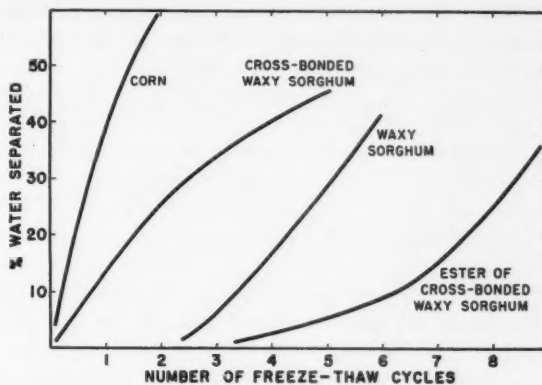

Fig. 10. Progressive syneresis of water from 5% pastes of various starches, subjected to repeated freeze-thaw treatments.
Modern methods of food preservation include deep-freezing and prolonged cold-storage. Where pasted starch is employed as a thickening agent in the food, the accelerated retrogradation at low temperature may cause undesirable physical changes, including gel formation, development of opacity, and syneresis or seepage of water from the paste. This latter effect is particularly objectionable in pie fillings and frozen foods. For test purposes, the development of syneresis can be greatly exaggerated by successively freezing and thawing the starch paste, then centrifuging and determining the amount of separated water (2). Several such freeze-thaw cycles are equivalent to months of cold-storage at 40°F. Figure 10 shows some typical results. Corn starch is generally unsuitable for this purpose, since the paste breaks down excessively after one freeze-thaw cycle. Waxy sorghum is excellent, showing